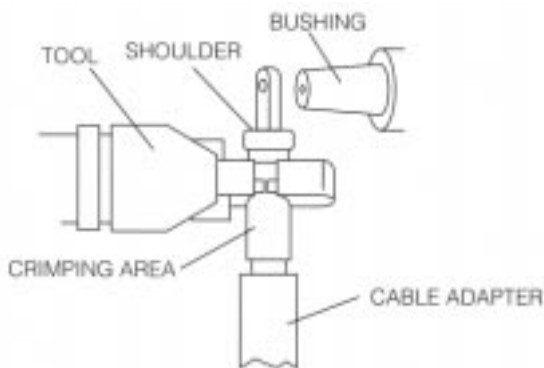

Figure 14.
- Make first crimp 1/2" (13 mm) below shoulder of compression connector. (Refer to Figure 14.)